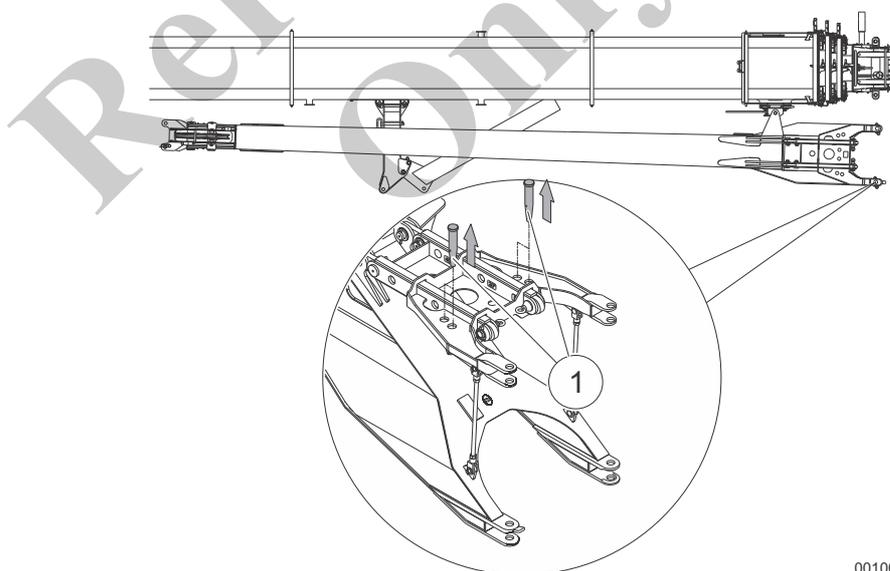

Fig. 205 Pulling out the bolt on the fly boom
8	Release and remove the bolts (1) in Fig. 205 on the fly boom.